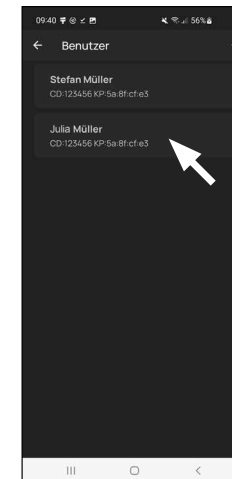

Fig. 18
**! Note:** If you wish to enter opening media for other users, go back one menu and select the respective user (Fig. 18). Repeat the steps in this chapter for this user.